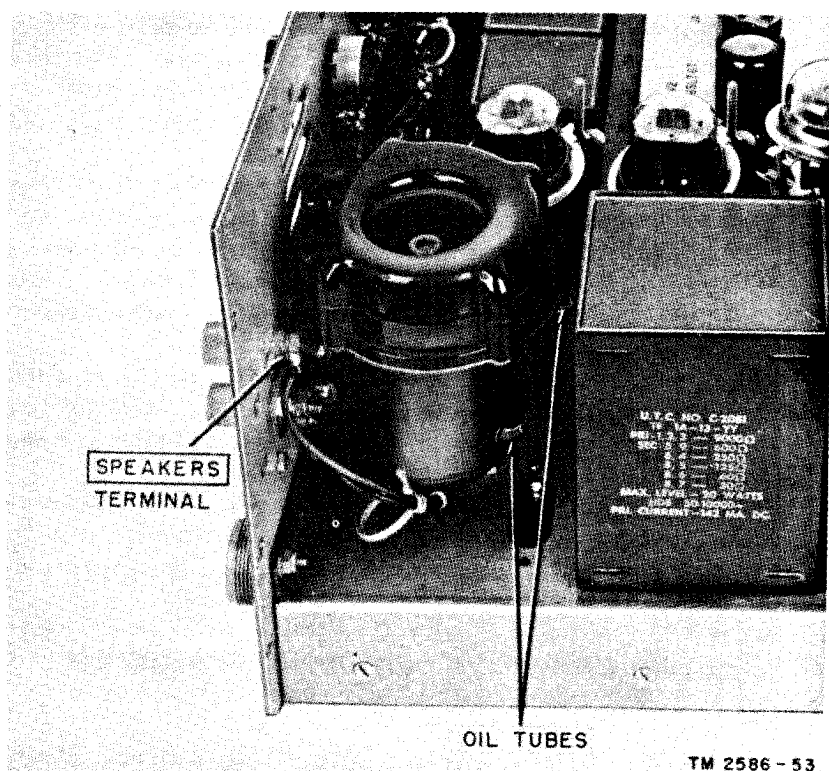

Figure 27. Blower motor on Amplifier AM-20B/TIQ-2 showing oil tubed.
To lubricate the amplifier blower motor, remove the amplifier from the amplifier case by following the instructions in paragraph 70c(1) through (3). Place 2 or 3 drops of oil (PL special) into each oil tube (fig. 27). Replace the chassis into the amplifier case.